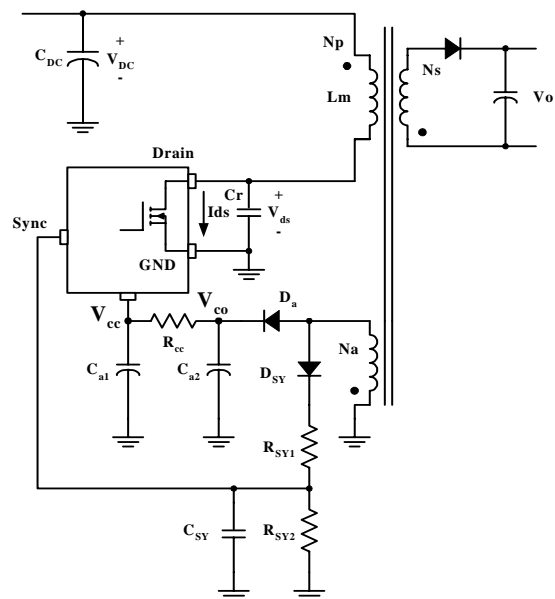
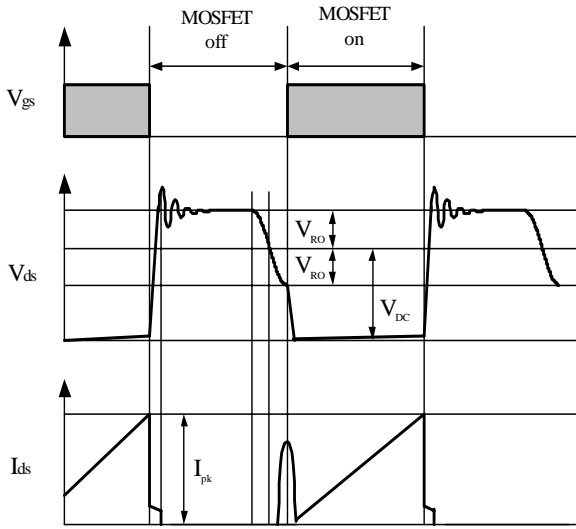
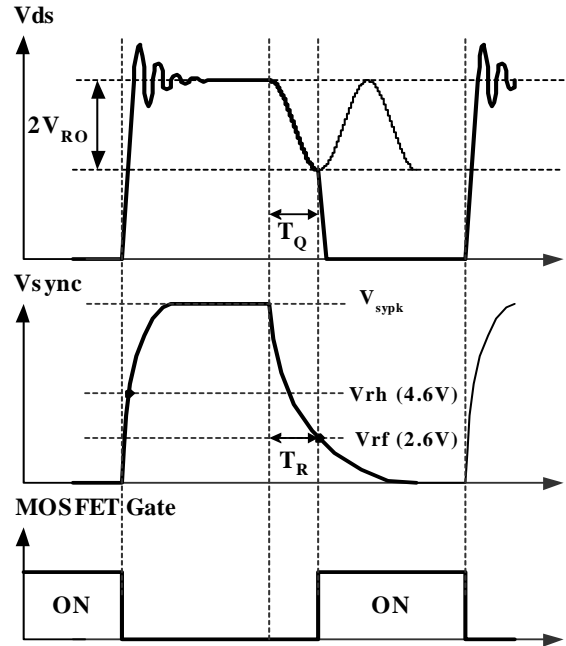

Figure 6. Synchronization circuit
Figure 7. Quasi-resonant operation waveforms
Figure 8. Normal quasi-resonant operation waveforms
2. **Synchronization** : FSCQ0765RT employs quasi-resonant switching technique to minimize the switching noise and loss. In this technique, a capacitor (Cr) is added between the MOSFET drain and source as shown in Figure 6. The basic waveforms of quasi-resonant converter are shown in Figure 7. The external capacitor lowers the rising slop of drain voltage to reduce the EMI caused when the MOSFET turns off. In order to minimize the MOSFET switching loss, the MOSFET should be turned on when the drain voltage reaches its minimum value as shown in Figure 7.
The minimum drain voltage is indirectly detected by monitoring the Vcc winding voltage as shown in Figure 6 and 8. The voltage divider R_{SY1} and R_{SY2} should be chosen so that the peak voltage of sync signal (V_{syPk}) is lower than the OVP voltage (12V) in order to avoid triggering OVP in normal operation. It is typical to set V_{syPk} to be lower than OVP voltage by 3-4 V. In order to detect the optimum time to turn on MOSFET, the sync capacitor (C_{SY}) should be determined so that T_R is the same with T_Q as shown in Figure 8. The T_R and T_Q are given as, respectively